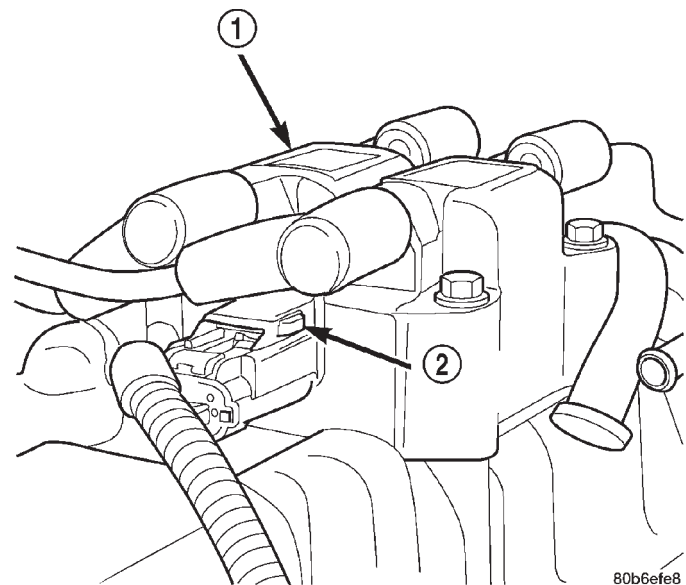

Fig. 10 Electronic Ignition Coil Connector
- (1) Disconnect electrical connector from coil pack (Fig. 10).